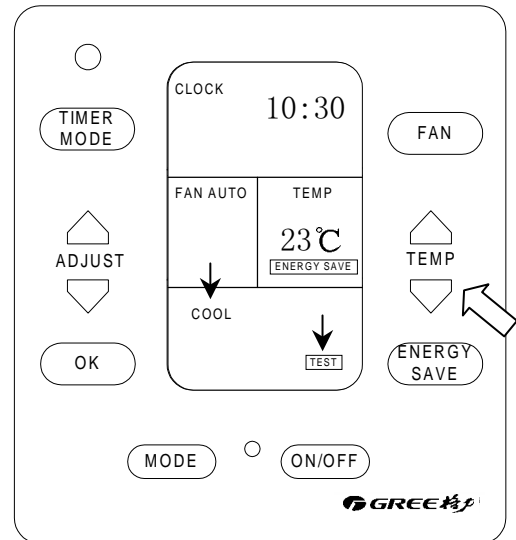

Fig.15: the LCD's display when the unit is on cooling mode & testing mode.
- ❖ Press the **TEMPERATURE ADJUST** button  will force the unit to enter cooling mode and the compressor will act immediately, the fan speed changes to high and **TEST** will be shown. It will take five minutes before the unit stop automatically (Fig.15).